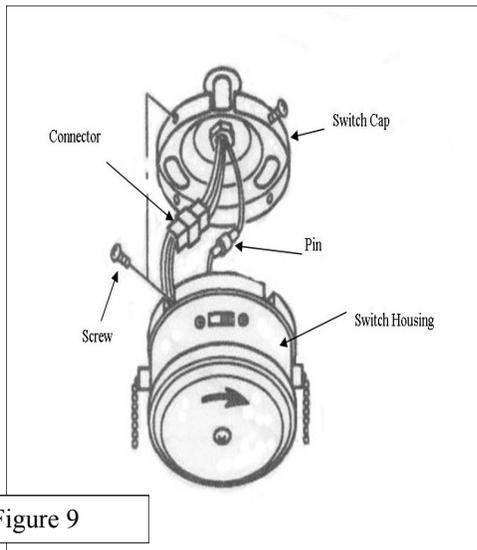

Figure 9
- Back off (or loosen) the screws on the electrical housing mount plate attached to the motor shaft. (figure 9)
- A color coded wire connector (female) is located inside the electrical switch housing. (figure 9)